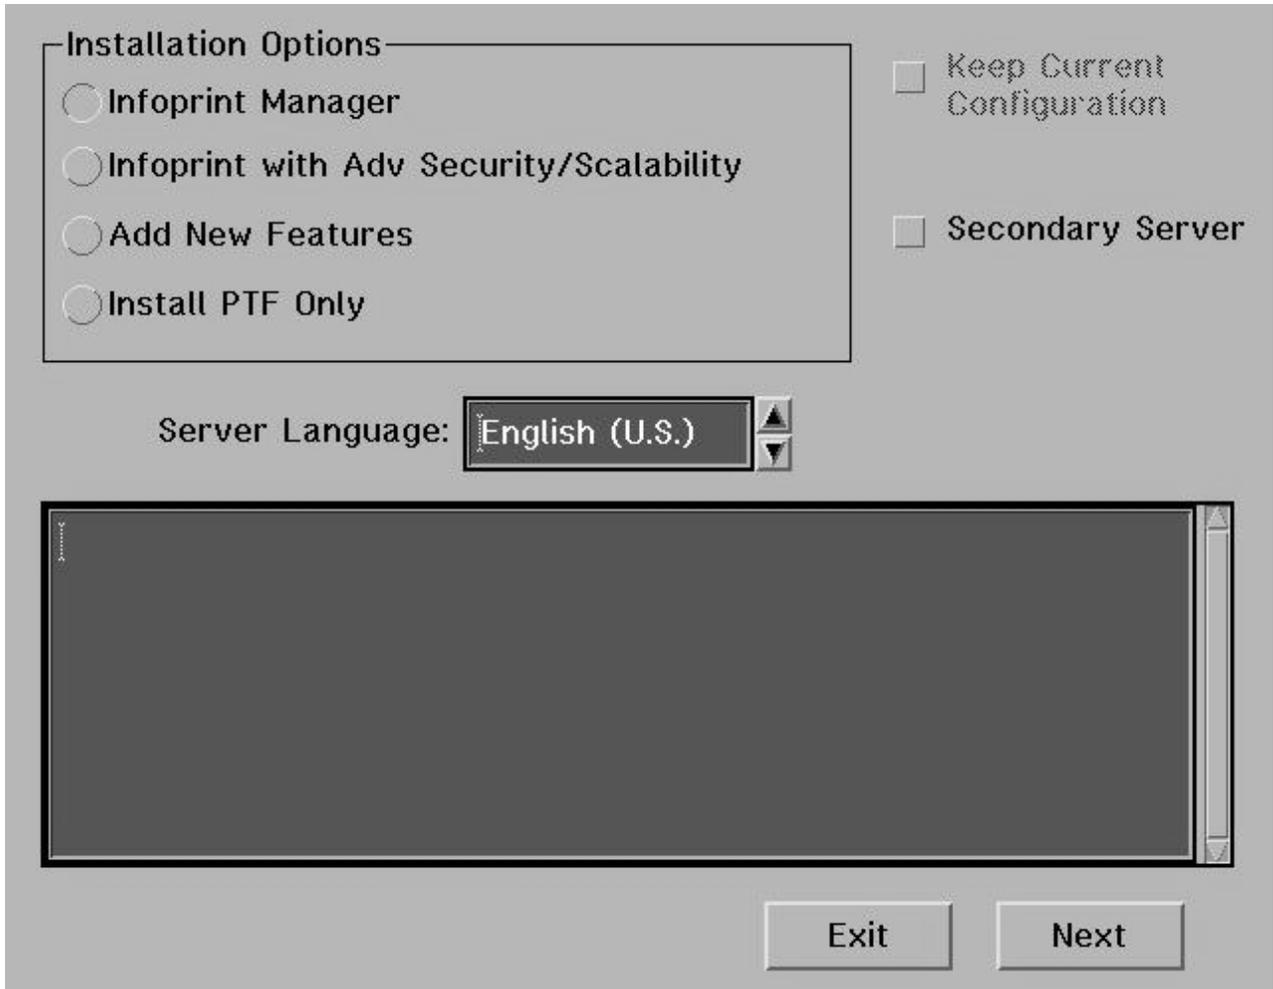

Figure 12. Infoprint Installer: Installation Options panel
3. The Installer displays the **Installation Options** panel (Figure 12). This panel allows you to click on the **Infoprint with Adv. Security/Scalability** radio button to select a first-time install of Infoprint Manager for AIX 4.1 with the Advanced Security/Scalability (DCE) option.